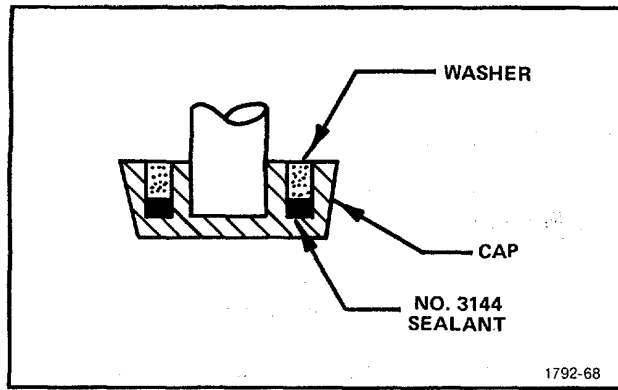

Figure 5-14. Detail of Fuseholder Caps.
**15. Install Fuseholder Caps (see Fig. 5-14)**